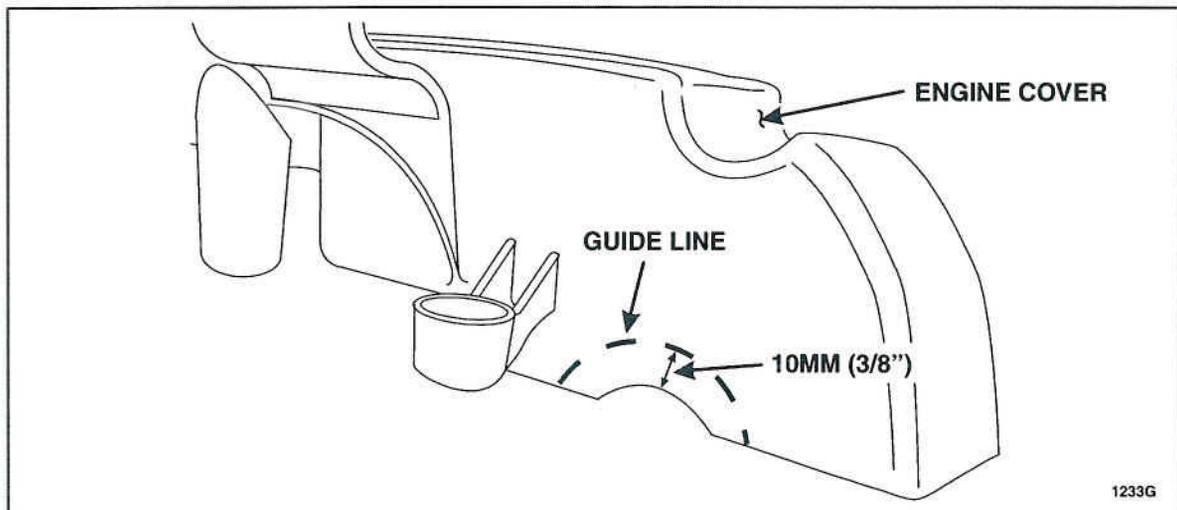

FIGURE 4
4. Mark a guide line on the engine cover that is approximately 10mm (3/8") larger than the original opening. See Figure 4.